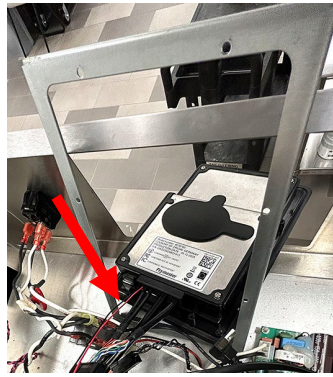

Figure 15
17. Insert the controller wire harnesses through the cabinet opening through the metal retaining bracket as shown (see Figure 15) as seen from inside the cabinet.